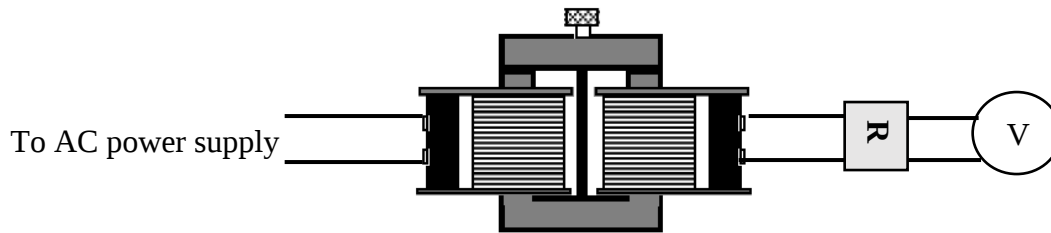

Figure 3. Schematic diagram for a circuit with a transformer
3. Place Alligator slip-on clips back and connect 200-turn coil (secondary) to the 10Ω load resistor and to the Voltage Sensor, in parallel (Figure 3).